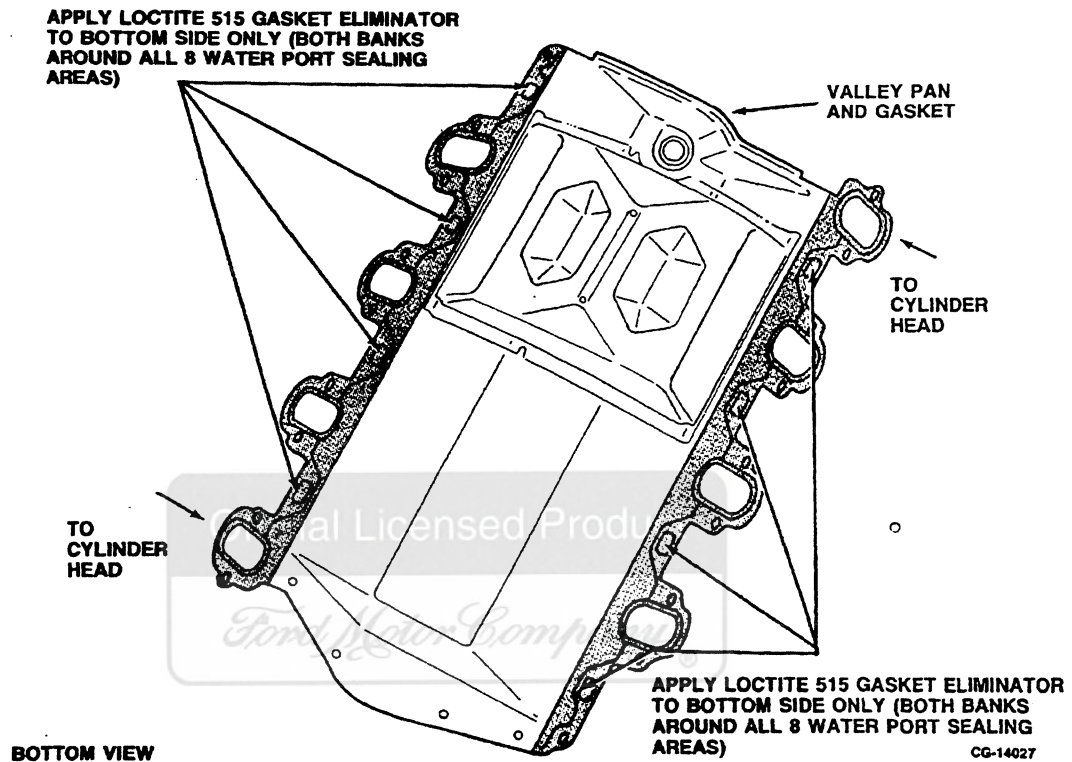

Figure 2.13. Apply Loctite 515 to Valley Pan Gasket Sealing Area Around Water Ports [1988 Model Year and Earlier]
3. Coat the bottom of the valley pan gasket [side facing cylinder head only] at the sealing area for water ports with Loctite 515 Gasket Eliminator provided with the valley pan gasket service package. Refer to Figure 2.13.